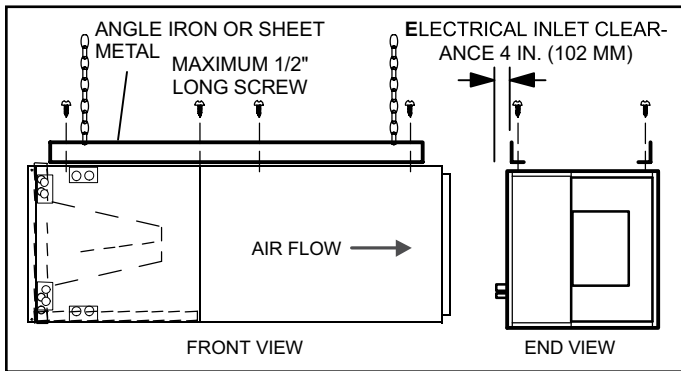

Figure 10. Suspending Horizontal Unit
1. If the unit is suspended, the entire length of the cabinet must be supported. If you use a chain or strap, use a piece of angle iron or sheet metal attached to the unit (either above or below) to support the length of the cabinet. Use securing screws no longer than 1/2 inch to avoid damaging the coil or filter. See Figure 10. Use sheet metal screws to connect the return and supply air plenums as required.
12. If suspending the unit, it must be supported along the entire length of the cabinet. If using chain or strap, use a piece of angle iron or sheet metal attached to the unit (either above or below) so that the full length of the cabinet is supported. Use securing screws no longer than 1/2" to avoid damage to coil or filter, as illustrated in Figure 10. Connect return and supply air plenums as required using sheet metal screws.